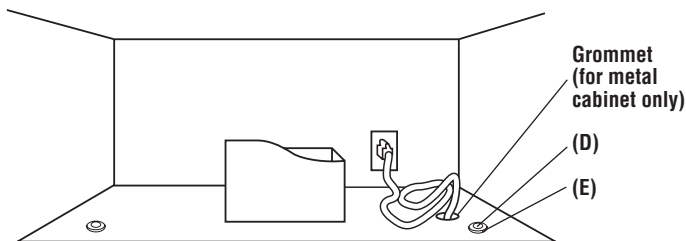

Figure 25
8. Use the two Top Cabinet Screws (D) and two Flat Washers (E), supplied in the INSTALLATION HARDWARE, to attach the unit to the top cabinet. See Figure 25.